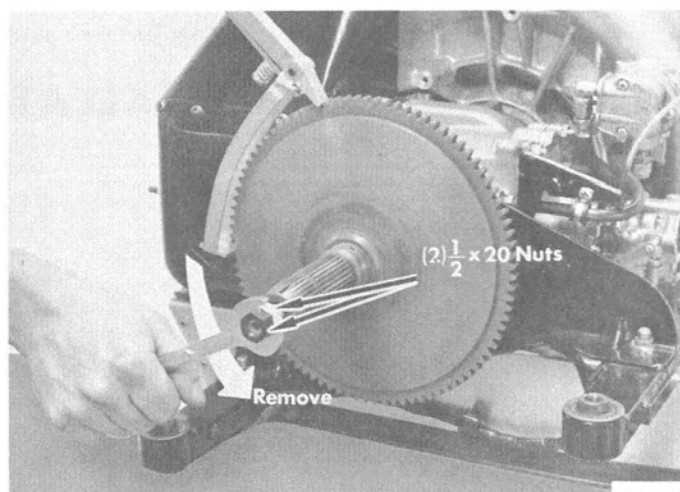

Figure 3. Removing Flywheel Stud
- a. Thread one nut ($\frac{1}{2} \times 20$) onto stud until it is against the flywheel shaft. (Figure 3)